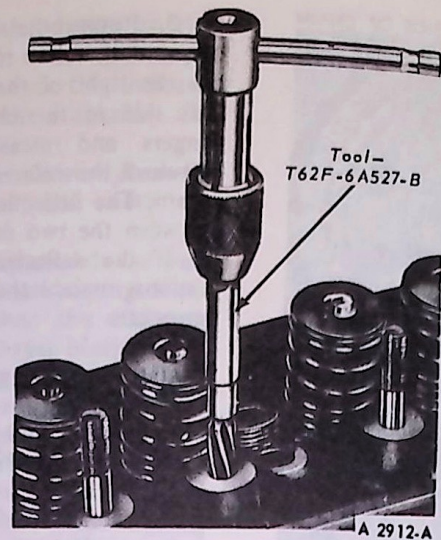

FIG. 16 Reaming Rocker Arm Stud Bore—240 Six and 302-W V-8
2. If a loose rocker arm stud is being replaced, ream the stud bore using the proper reamer (or reamers in sequence) for the selected oversize stud (Fig. 16). Make sure the metal particles do not enter the valve area.